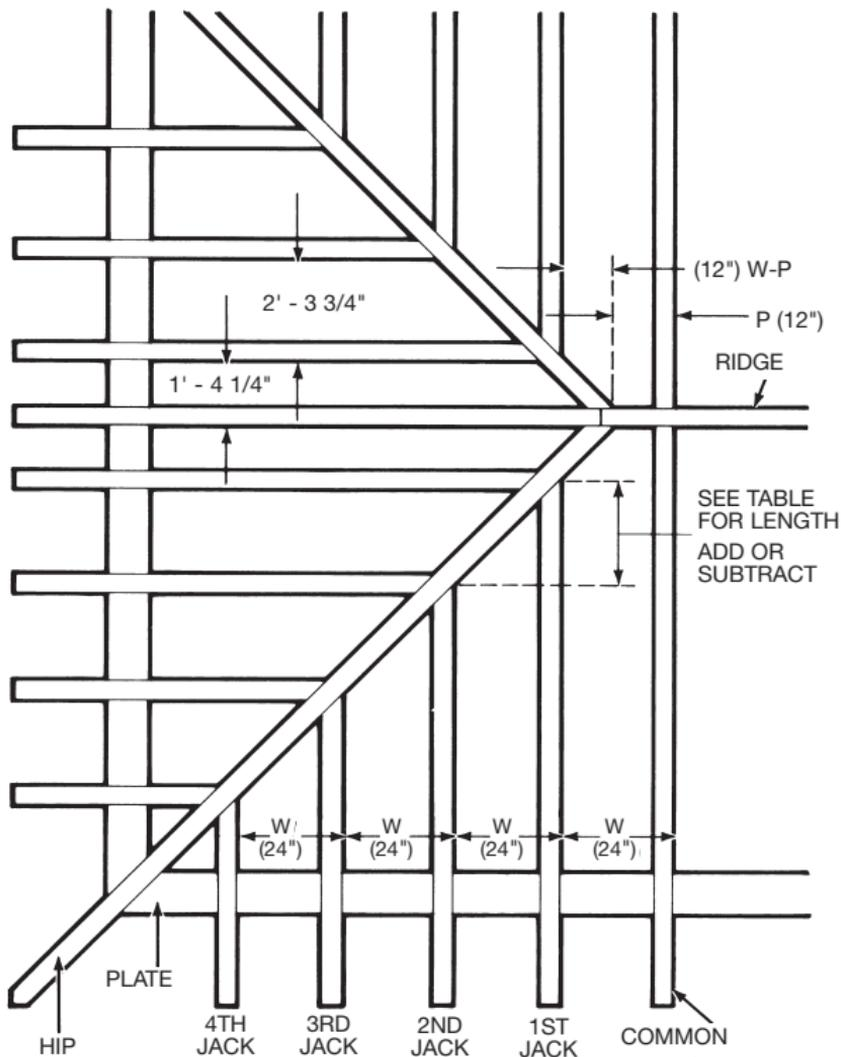

FIG. 14 Top View of Hip Jack Rafter Spacing.
JACK RAFTER LENGTH: The Jack Rafter Tables are different than those for the other rafters. The table lists, in the first column, the varying center-to-center spacing of the jack rafters. Then in the second column is the difference in length from one jack to the next (see Figures 14 and 15). This difference in length is to be added to or subtracted from the rafter length as you progress from jack to jack (using the spacing selected). In our example of a 8" rise, and lets assume a 24" spacing; we have a 2' 4 7/8" difference in length. Therefore, to obtain the length of the first or longest jack rafter, measure the
distance from the edge of the last common rafter to the intersection of the hip and ridge, or the valley and top plate (for a valley jack). This measurement is called (P) in Figures 14 and 15. Now subtract the measurement (P) from the spacing you are using (W). The result ($W - P$) is the distance from the intersection of the hip and ridge to the first hip jack or the plate corner to the first valley jack. Look in the table for this distance and find the length to deduct from the common rafter length. In our example again, let us take a measurement of 12" from the common rafter far side edge to where the hip
TAIL OR EAVE LENGTH: The tail or eave length for all hip jack rafters is the same as for common rafters. If desired, use a common rafter for a pattern. Cripple and valley jacks have no tail (See Figures 14 and 15).